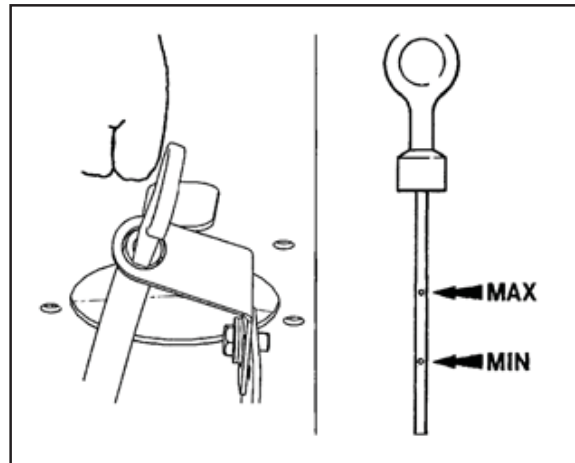

Fig.104
The oil level (Fig. 104) must be maintained between the 'MAX' and 'MIN' marks on the dipstick for normal use. When using auxiliary hydraulics with implements which require a large quantity of oil or when working on hillsides or sloping land, ensure that the transmission oil level is maintained at the 'MAX' mark on the dipstick.
4. If necessary, remove the filler plug and add oil to the correct level (Fig. 104).